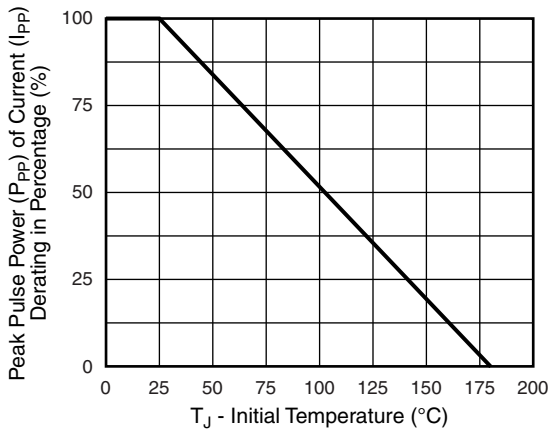
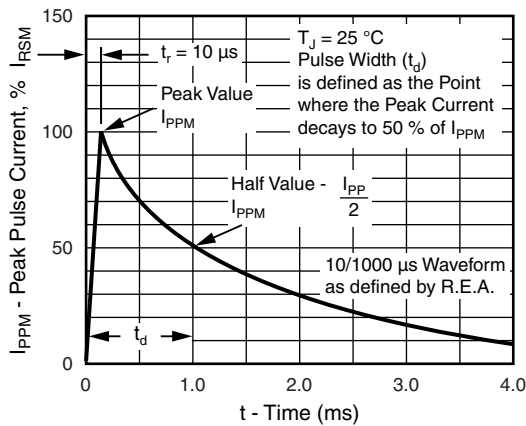

Fig. 2 - Pulse Derating Curve
Fig. 3 - Pulse Waveform
- (1) V_{BR} measured after I_T applied for 300 µs, I_T = square wave pulse or equivalent
- (2) Surge current waveform per fig. 3 and derated per fig. 2
- (3) All terms and symbols are consistent with ANSI/IEEE C62.35